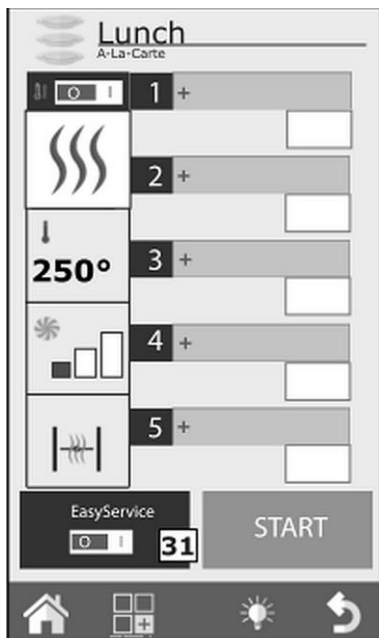

Fig. 38
1. To activate EasyService, set the EasyService switch (31, Fig. 38) to 'I' position.